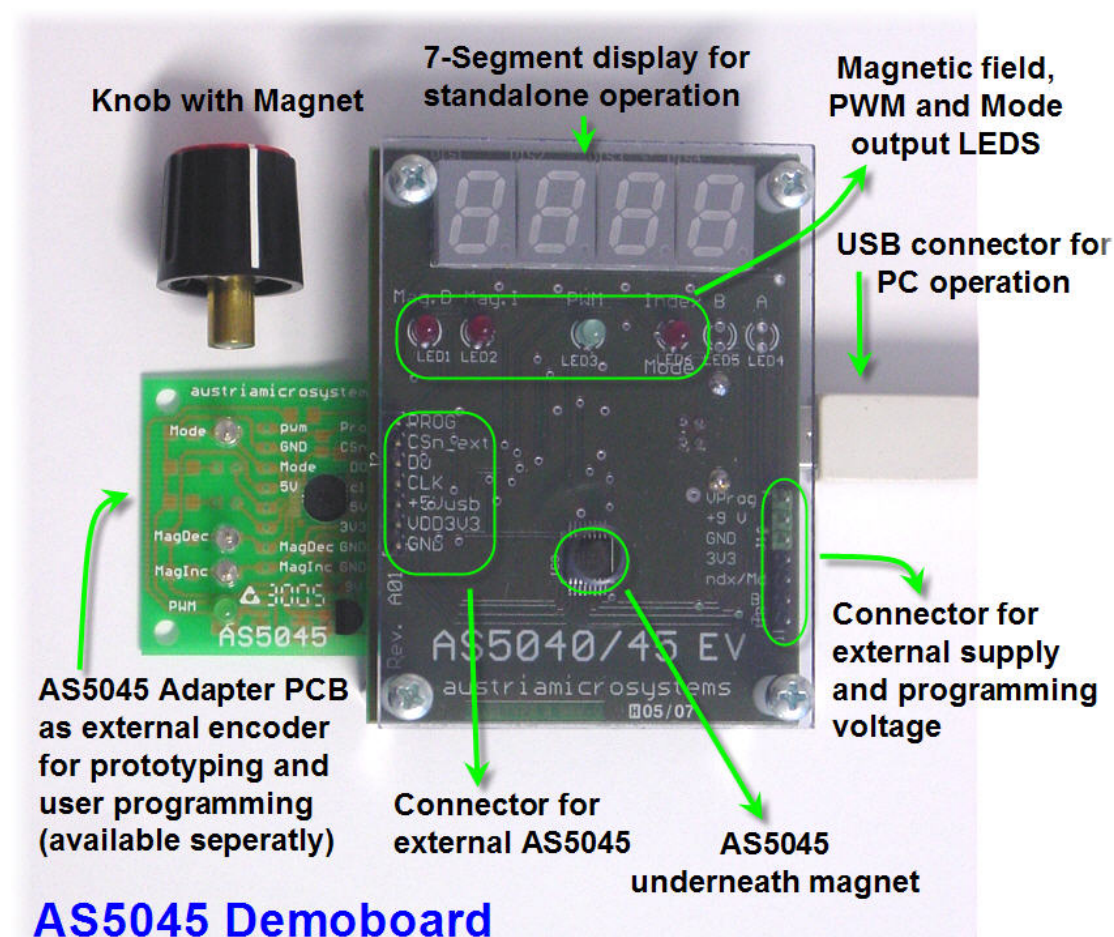

Figure 8: AS5045 demoboard and Adapter PCB
- AS5045 Demoboard (see Figure 8)